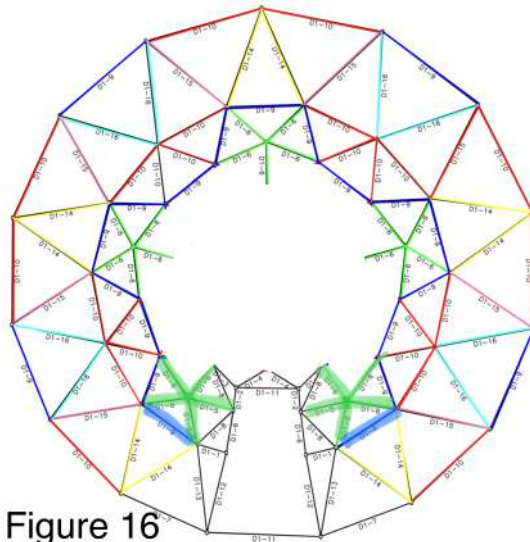

Figure 16
- Notice there are two more 5-pointed stars in the second layer of the dome on either side of the door (highlighted green, **Figure 16**). Pre-assemble two pentagons (same process as before) using the strut order as follows: #6-#6-#5-#6-#6.
- Attach the pre-assembled 5-pointed stars (ordered #6-#6-#5-#6-#6) on either side of the door, where the two innermost #6 struts attach to either side of the horizontal #9 strut (highlighted blue, **Figure 16**). Add a washer before screwing on the nut.